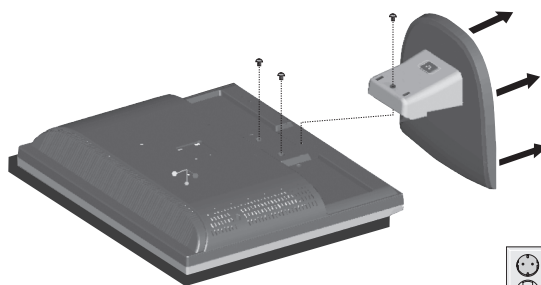

Figure R.2
3. Remove the 3 screws connecting the monitor to the stand and remove the stand as indicated (**Figure R.2**).